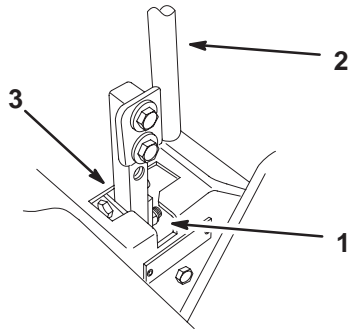

Figure 52
3. Move lever to the neutral position but **not locked** (Fig. 52).
5. Check where the control lever is relative to notch in console (Fig. 52). It should be centered allowing lever to pivot outward to the neutral lock position.
7. Apply slight rearward pressure on the motion control lever, turn the head of the adjustment bolt in the appropriate direction until the control lever is centered in neutral lock position (Fig. 52).